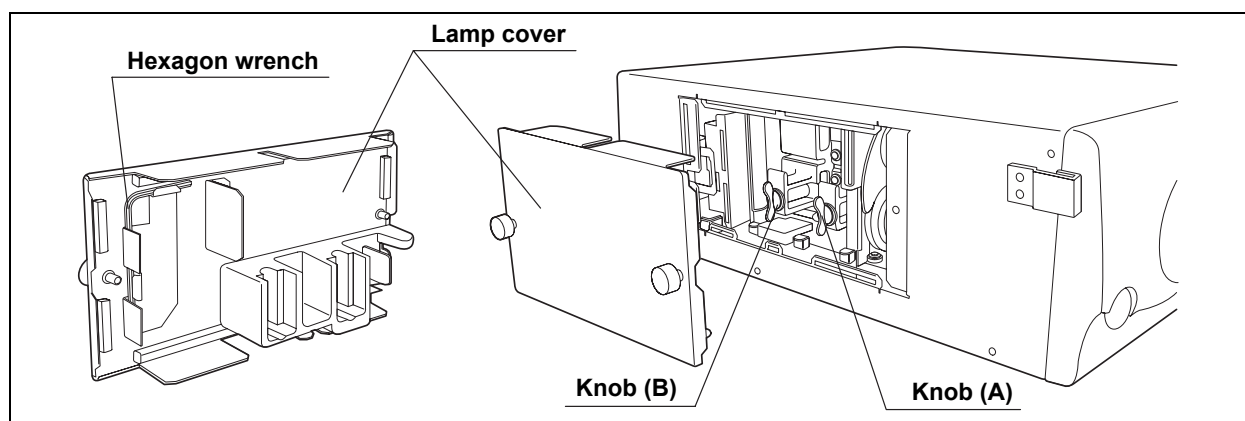

Figure 6.2
3. Remove the lamp cover on the side of the light source. After making sure the interior has cooled down, remove the hexagon wrench from the rear of the lamp cover (see Figure 6.2).